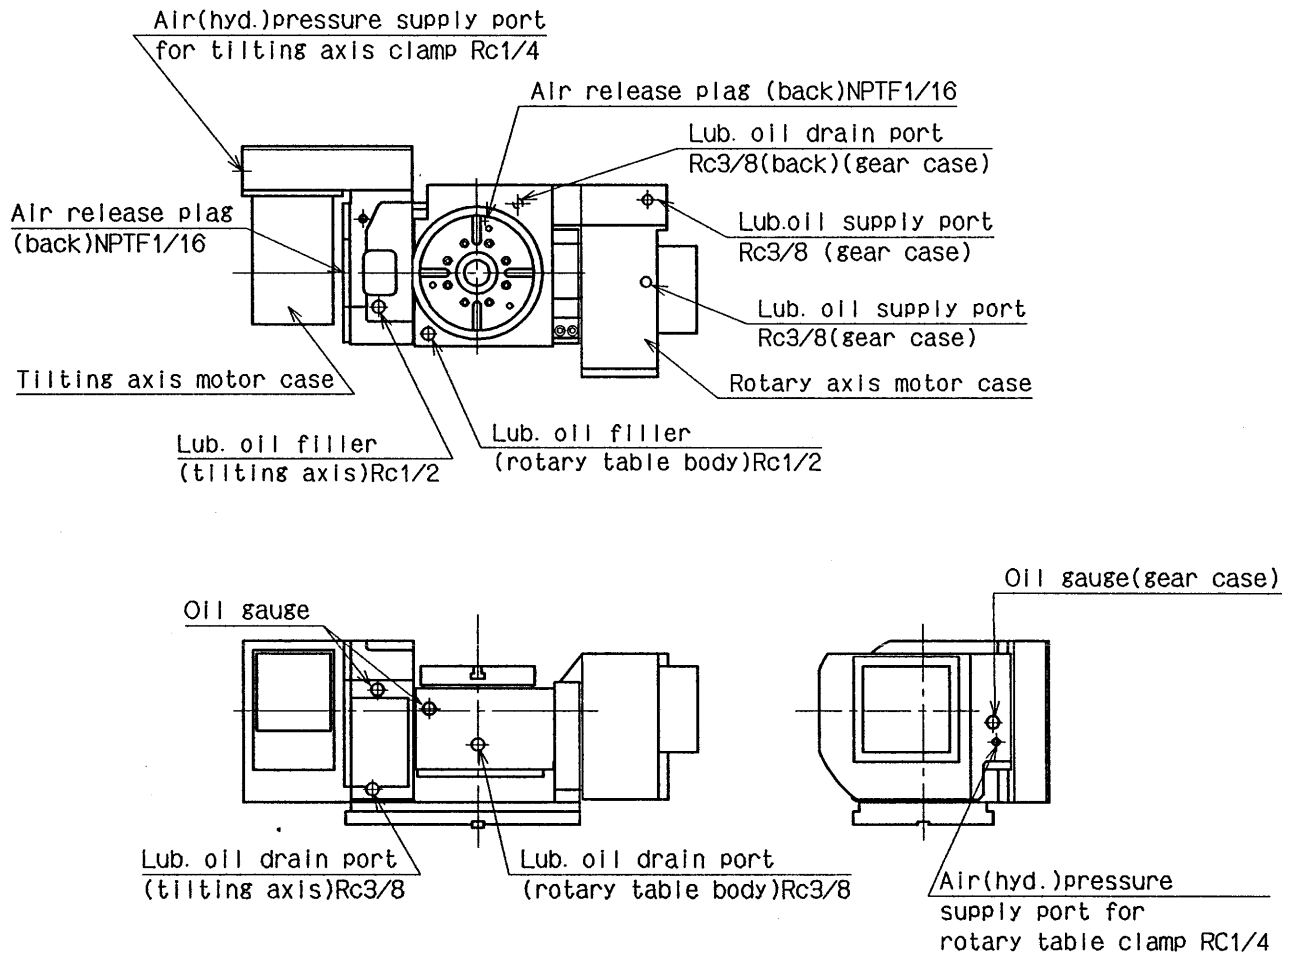

Fig 1
(See Fig.1.)
- 2) Connect the air pressure hose to the connection(Rc 1/4)shown in Fig.1.
- 1) Connect the hydraulic pressure hose to the connection(Rc 1/4)shown in Fig.1.